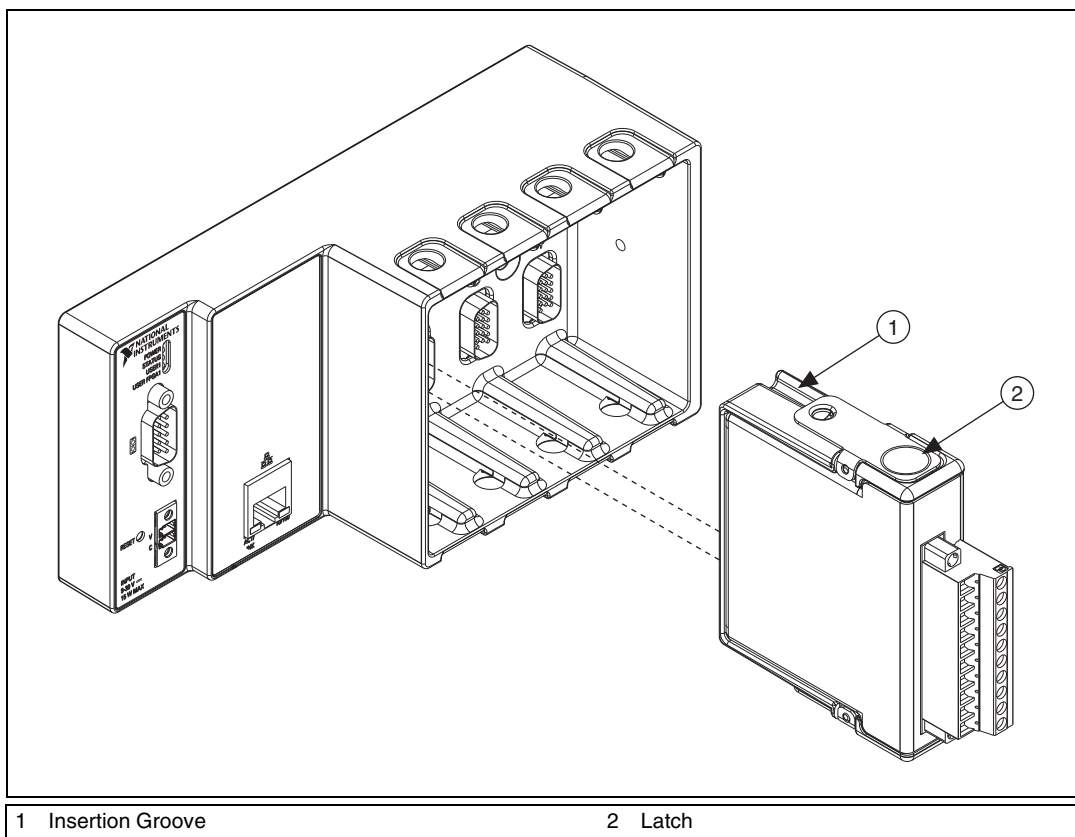

Figure 12. Installing an I/O Module in the Chassis
2. Align the I/O module with an I/O module slot in the chassis as shown in Figure 12. The module slots are numbered 1 to 4, left to right.